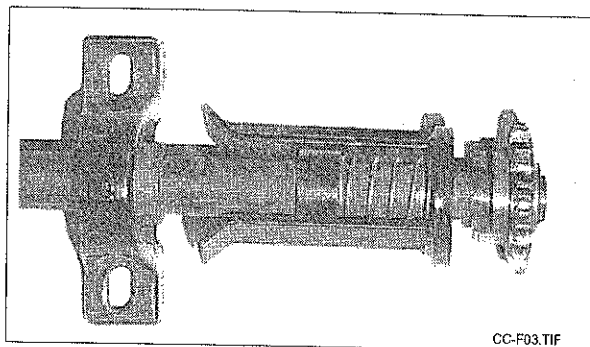

Figure 6.18 Clutch Disengaged
- Refer to Figure 6.18. **Disengage** the manual clutch collar at the drive wheel by pulling the manual clutch collar back about 1" (2.5cm) and turning it a quarter turn. Ensure that the manual clutch collar is firmly seated on the shoulder of the air seeder drive shaft, not the milled 1¼" (3.2cm) bore sprocket.